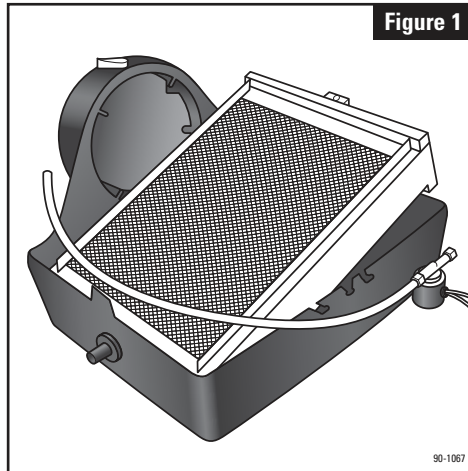

Figure 1
1. Remove front cover by pressing center tabs on top and bottom of the cover (1) and base (2). Pull feed tube (3) out of the water
distribution tray (4). Tip the evaporative assembly forward and lift it out of the humidifier. (See Figure 1)
2. The humidifier comes assembled for left side discharge. If converting to right side discharge, the base can be rotated so round collar is facing to the right. Swap the location of the hole plug (10) and drain spud (9) if using a right side discharge. To remove the cap, push and twist from inside the housing while lifting the cap up slightly on the outside. To remove the drain spud, twist and push from the outside of the base.